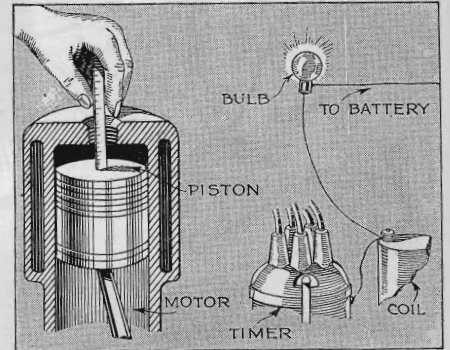

Fig. 4. When the timer contacts are closed, the bulb lights; when they break, the light goes out.
**I**T IS difficult to locate the exact point at which the contacts in the timer break and thereby cause the spark in the cylinder. You can, however, wire an electric light bulb, as shown in Fig. 4, to get an absolute indication of the exact moment when the contact breaks. One terminal of the bulb is wired directly to the battery and the other to the terminal of the coil that is connected to the timer. When the contacts are closed the bulb will light. When the contacts break, the bulb will go out.